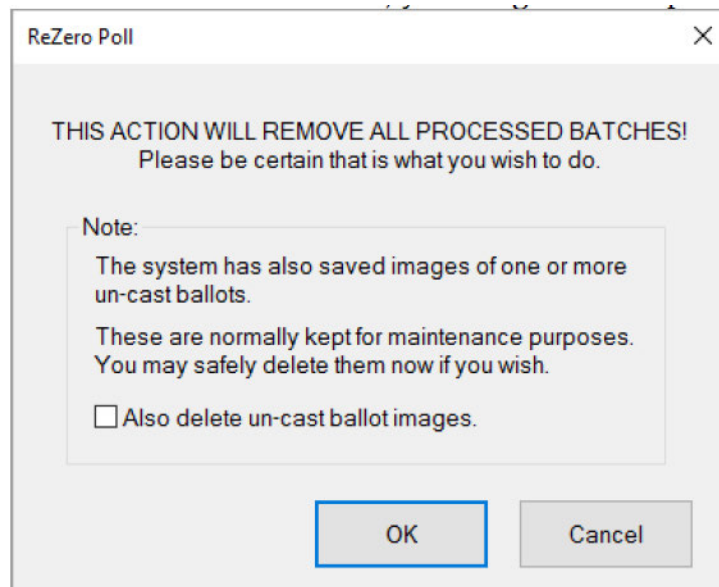

Figure 3-2: Rezeroing the tabulator with un-cast ballots
4. If applicable, select the **Also delete un-cast ballot images** check box, then click **OK**. See Figure 3-2.